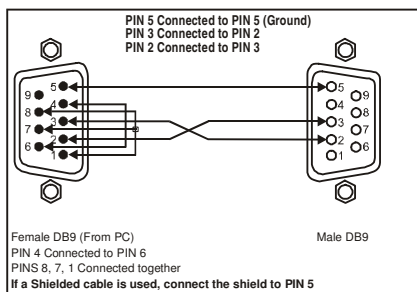

Figure 3: Connecting a PC without using a Null-modem Adapter
- Connect the RS-232 DB9 port on your PC to the RS-232 DB9 rear panel port on the Master **VS-161HDMI** unit, as Figure 3 illustrates